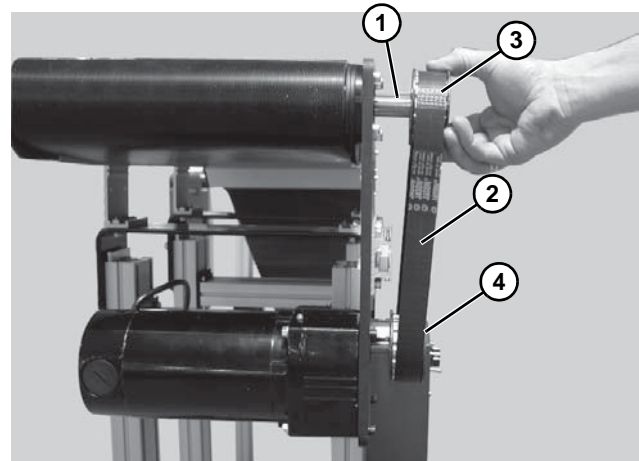

Figure 6
5. Install key (Figure 6, item 1).
6. Wrap timing belt (Figure 6, item 2) around driven pulley (Figure 6, item 3) and drive pulley (Figure 6, item 4). Install driven pulley onto conveyor shaft.